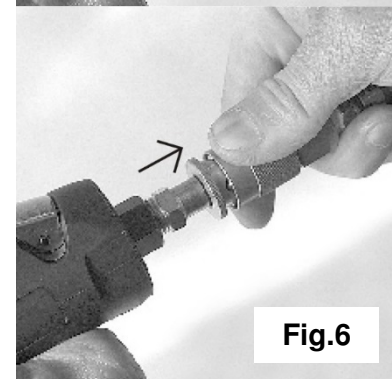

Fig.6
1. Disconnect the tool from air supply. (Fig.6)